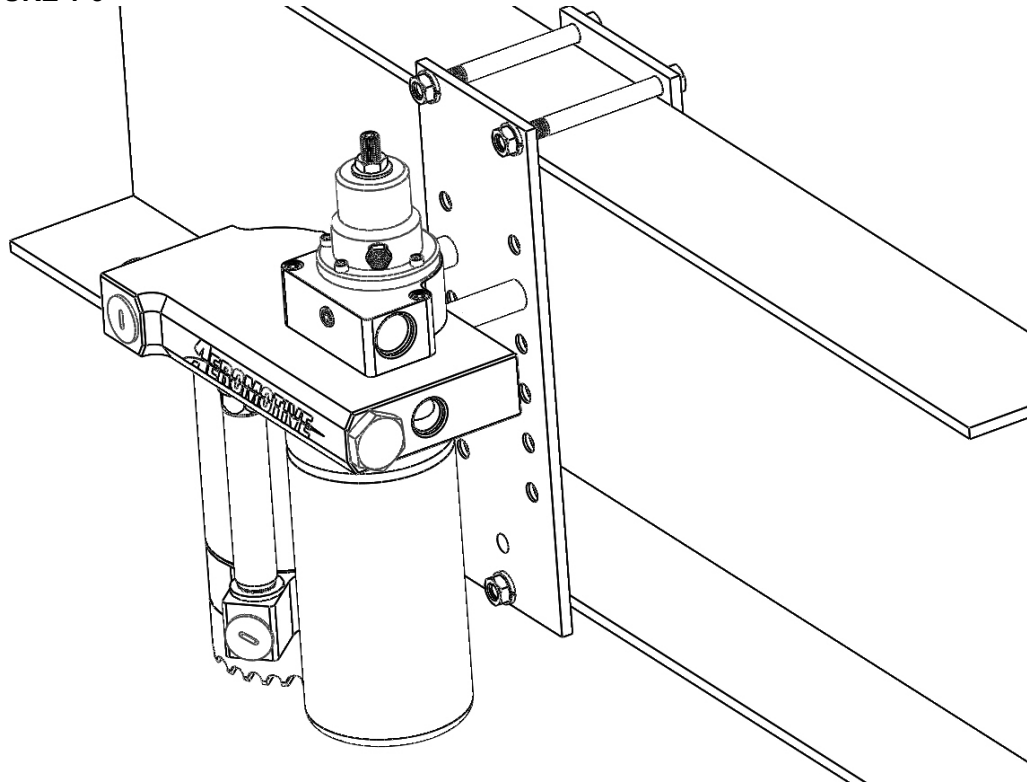

FIGURE 1-3
4. Slide the two spacers over the two bolts to space the pump away from the frame and wiring. Now tighten the pump to the bracket. **FIGURE 1-3**